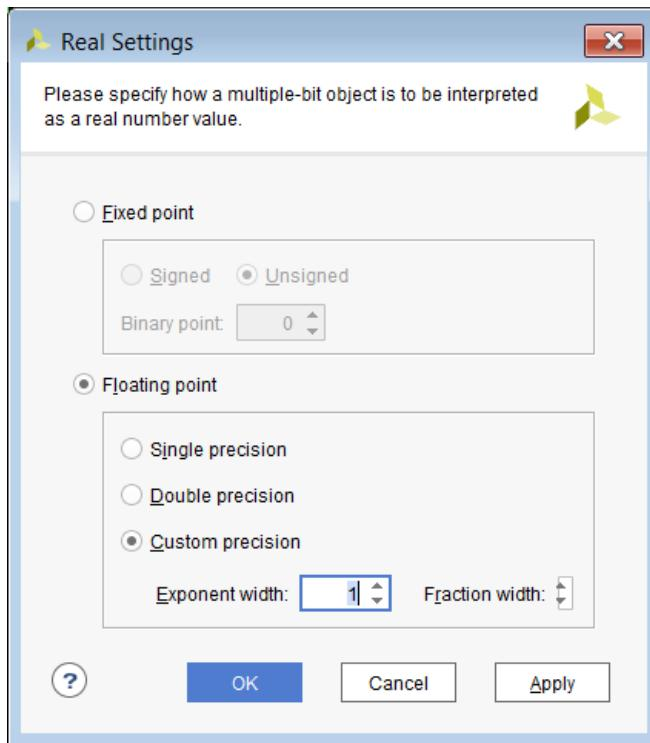

Figure 11-8: Real Settings Dialog Box
- Real radixes cause bus values to be interpreted as fixed point or floating point real numbers, as determined by the settings of the **Real Settings** dialog box, shown in Figure 11-8.